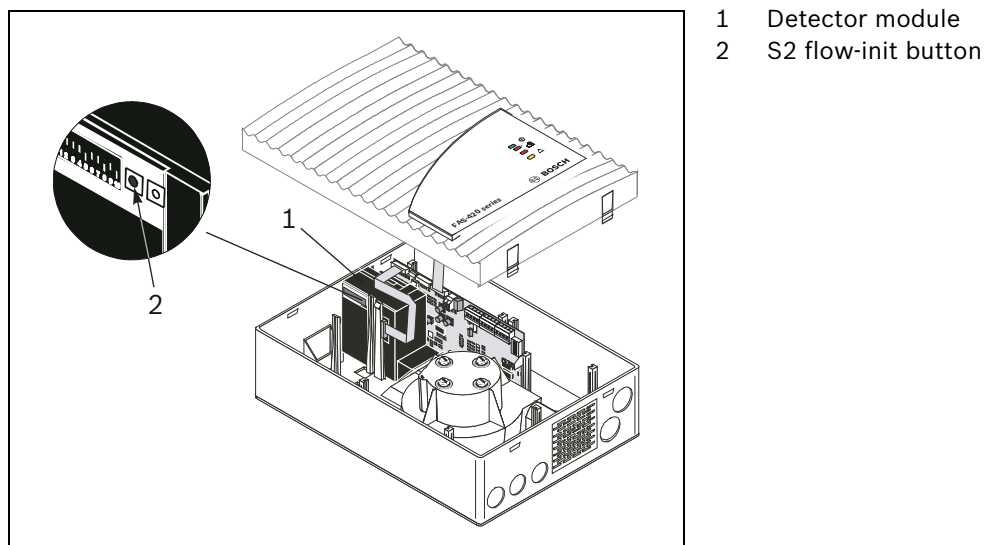

Figure 6.1 Air-pressure-independent calibration of the airflow sensor
2. To initialize the connected pipe system, press the S2 flow-init button on the detector module concerned (see *Figure 6.1*), until the green operating LED on the unit starts to flash. Initialization is complete after approx. 5 s. Following successful initialization, the operating LED lights up permanently.